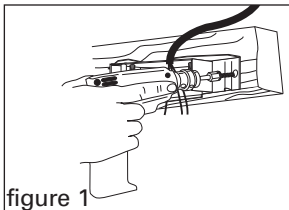

figure 1
1. Mount bracket to joist using the two wood screws provided (figure 1).